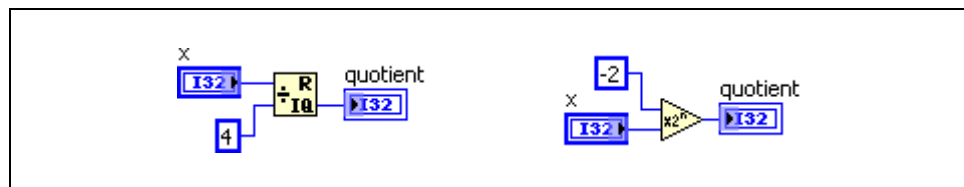

Figure 3-15. Replace Quotient & Remainder with Scale by Power of 2
- **Quotient & Remainder**—This function consumes significant space on the FPGA. If you must divide by a power of two, consider using the Scale by Power of 2 function with a negative constant wired to the **n** input, as shown in Figure 3-15.